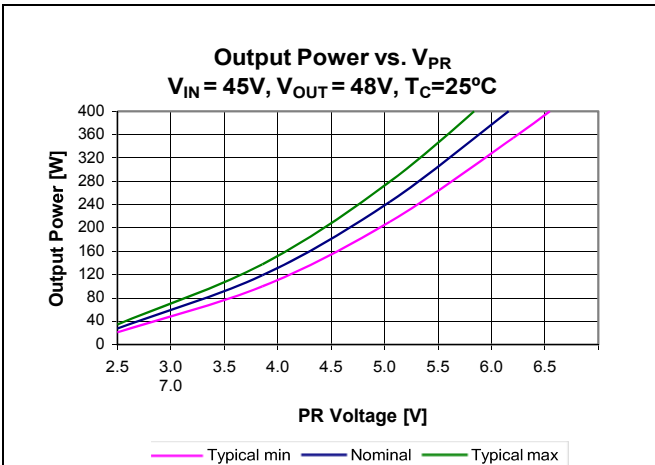

Figure 21 – Output Power vs.  $V_{PR}$ ;  $V_{IN} = 45\text{ V}$ ,  $V_{OUT} = 48\text{ V}$ ,  $T_{CASE} = 25^{\circ}\text{C}$
**Control node (PR)** is the input to the control node which determines the powertrain timing and ultimately the module output power (Figure 21). An internal 0.5 mA current sink is always active. The bi-directional buffer between PR and the control node has two states. In normal operation, PR will be above the 0.79 V switching threshold, and will drive the control node through the buffer. An internal 7.4 V clamp determines the maximum output power that can be requested of the modulator.